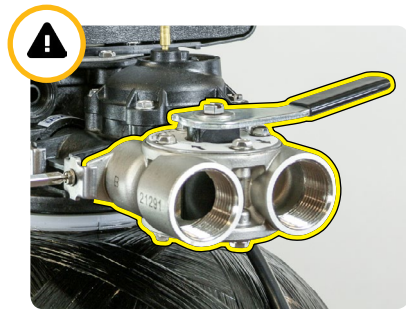

FIGURE 8-C
- 5) Finally, assemble the plumbing adaptor to the valve as shown in Figure 8-C (your bypass/ plumbing adapter model may vary). When assembling the clips back onto the valve, leave the first clip loose, tighten the second clip, and complete the assembly by tightening the first clip. **⚠ Please lightly tighten the screws into the meter as overtightening will easily cause cracking**